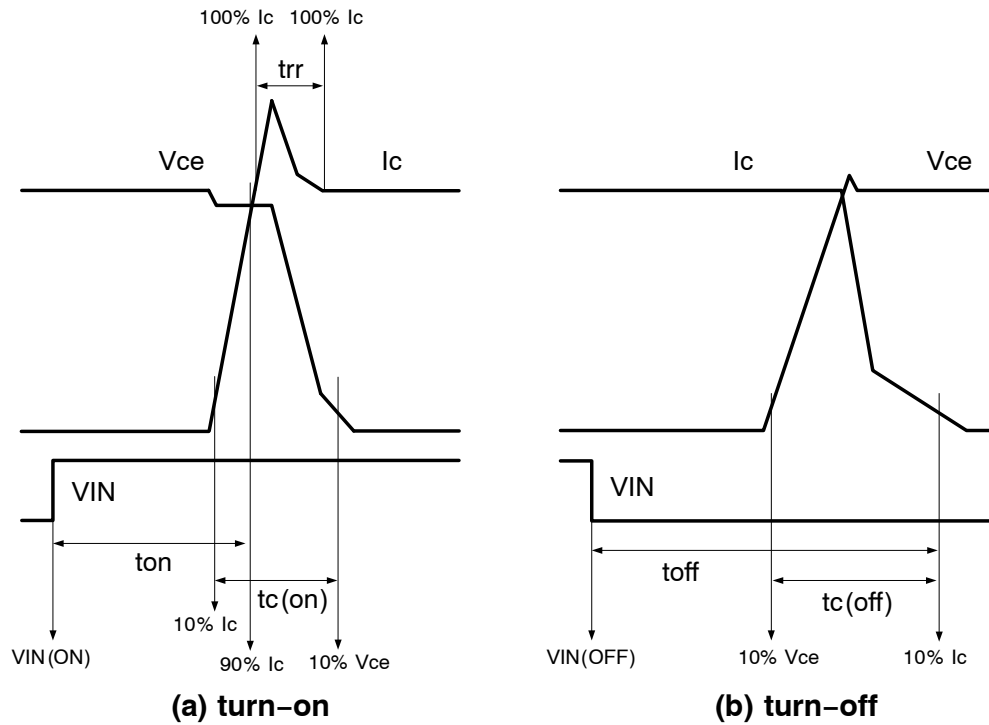

Figure 3. Switching Time Definition
3. ton and toff include the propagation delay of the internal drive IC. tc(on) and tc(off) are the switching times of IGBT under the given gate-driving condition internally. For the detailed information, please see Figure 3.